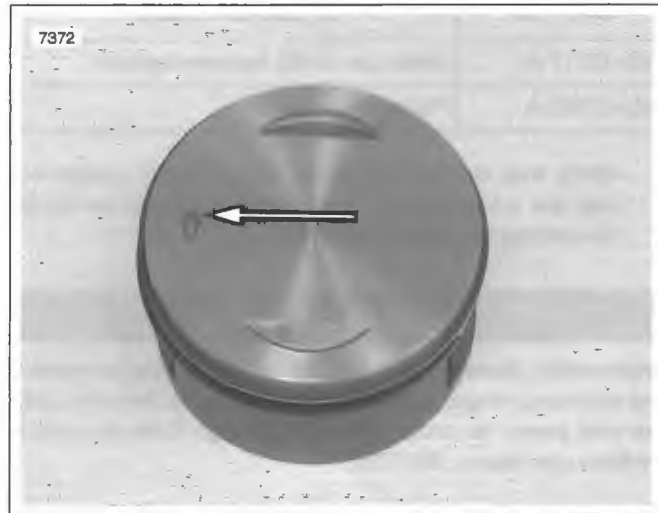

Figure 3-28. Piston Installation Arrow
4. See Figure 3-28. Place piston over rod end so that the arrow stamped at the top of the piston points toward the front of the engine.